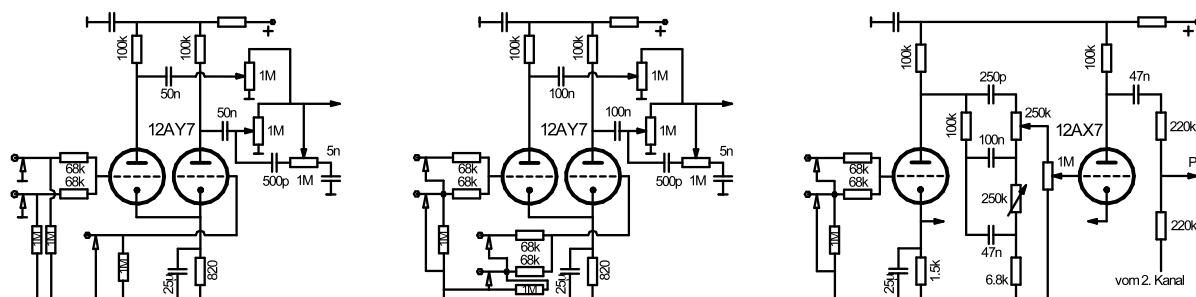
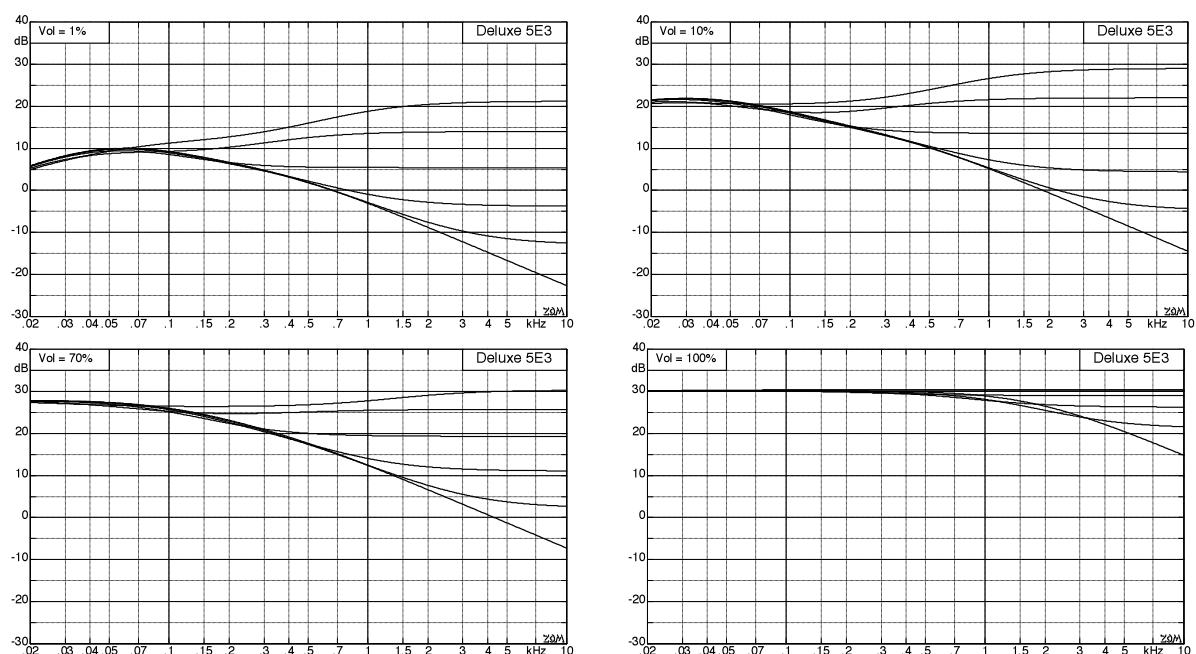

Fig. 10.10.43: Deluxe-input-circuits: 5D3 (1954), 5E3 (Tweed, 1955), AB763 (Blackface, 1963).
Fig. 10.10.44: 5E3-Deluxe, first-stage-transmission, Tone-pot; volume-pot of “the other channel” turned down.
Fig. 10.10.42 shows the topological variations between two Deluxe amps. Already the input tubes differ (Chapter 10.11), as does the plate circuitry. In the 4E3, the volume pot is “reverse”-connected – a feature found in many very early amplifiers. Changes in the control setting directly change the amplification of the tube, and with the volume turned down fully, the tube operates into a short. It being a current source, this does not do any harm to the tube. The simple tone pot has backwards-effects on the plate, as well, and on top of this, both channels are coupled. This scenario is easy to analyze but very difficult to describe because everything depends on everything else. The AB763, on the other hand, sums the two channels only directly ahead of the phase-inverter (PI) and makes a much better decoupling possible (Fig. 10.10.43). The effect of the tone control is depicted in Fig. 10.10.44: it is a wide-band treble-filter dependent on the setting of the volume control, and the mid-range attenuation (Chapter 10.3) so characteristic of the later versions is absent. The reverse-connected volume pot is impractical because in its middle turn-range the amplification changes little (by merely 10 dB between settings 2 and 8). Plus the two volume pots influence each other in their effect.